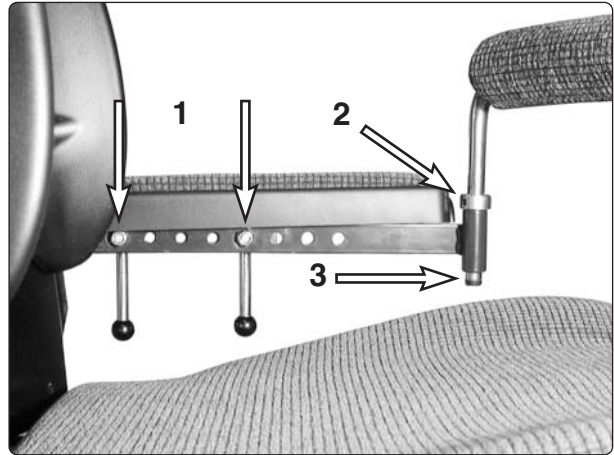

Fig. 46. Chest support adjustment.
1. Unscrew and remove the two nuts on the inner side of the arm rest, see Fig. 46:1.
1. Loosen the socket head cap screws for the locking ring on each side of the chest support, see Fig. 46:2.
2. Adjust the chest support to the appropriate height. Never adjust the height so high that the chest support bar becomes invisible below the bushing, see Fig. 46:3.